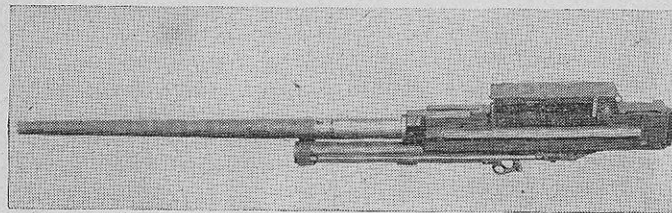

FIGURE 11.—37-mm gun M1A2.
■ 26. DESCRIPTION.—The 37-mm automatic gun M1A2 (fig. 11) is a recoil-operated weapon using an ammunition clip which holds ten rounds. The cartridges are fed into the left side of the feed box. The empty cases are ejected through a longitudinal opening below the trunnion block and the empty clip is ejected through an opening in the right side of the feed box. Sustained fire is possible, since a new clip of ammunition may be fed into the mechanism without interruption of the firing. For the characteristics of the 37-mm gun M1A2, see TM 9-235.